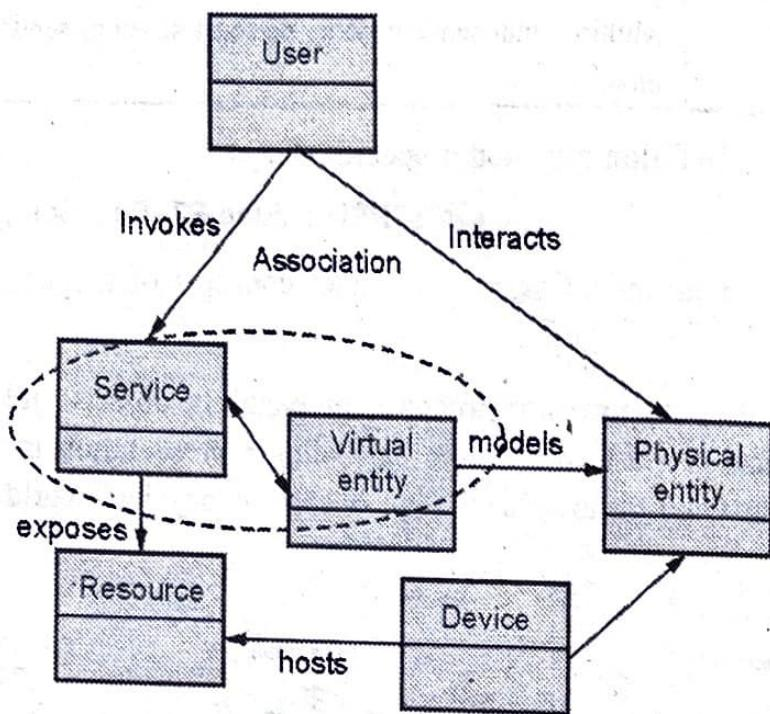

Fig. Q.20.2 IoT Domain model
- The physical interaction is the result of the intention of the human to achieve a certain goal. Fig. Q.20.2 shows IoT domain model.